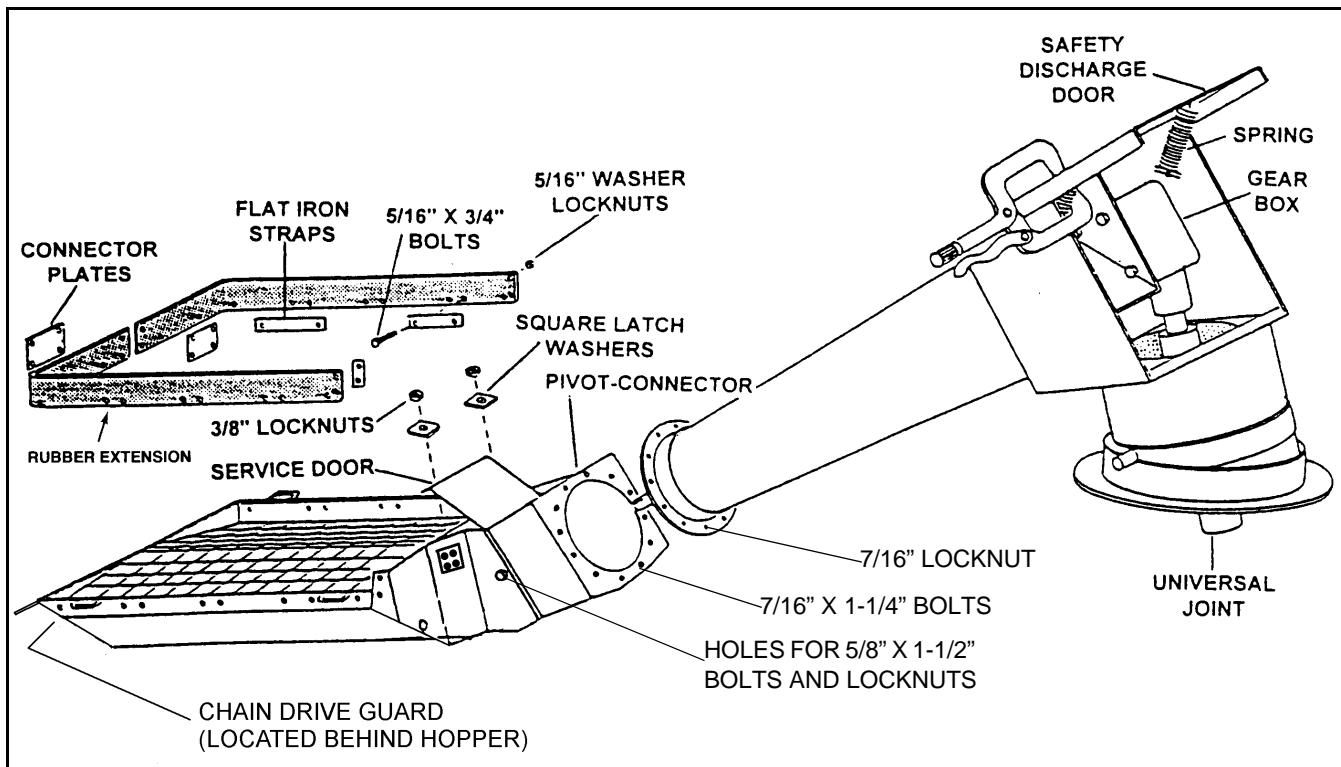

Figure 3.46
1. Attach the pivot-connector to the top hole in hopper with two 5/8" x 1-1/2" bolts and locknuts. **Do not over-tighten.** Tighten snug only; these bolts act as pivot points (Figure 3.46).
8. Remove the two 5/16" whiznuts that secure the chain drive guard. Attach the 2-piece rubber extension to inside of hopper lip with 5/16" x 3/4" bolts and whiznuts and the flat iron straps provided, plus the 2-piece extension connector plates. Replace bolts, see Figure 3.46.